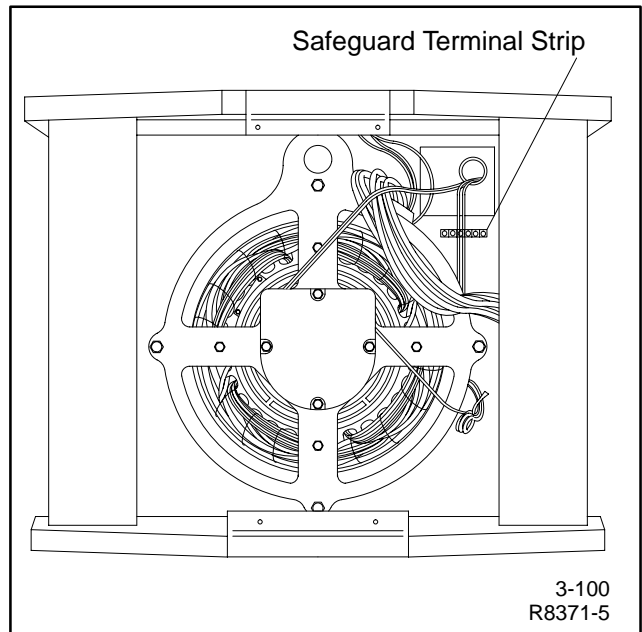
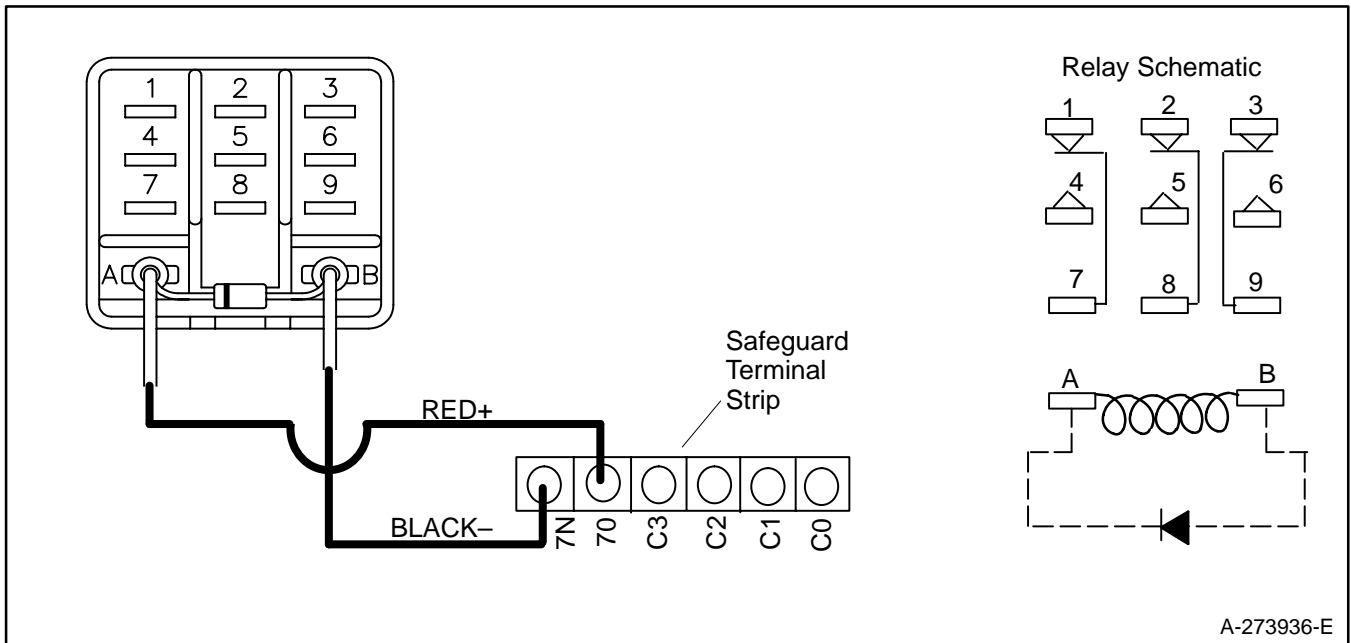

Figure 2. Location of Safeguard Terminal Strip (Typical)
Figure 3. Connections for Run Relay Kit
5. Locate the safeguard terminal strip in junction box. See Figure 2. Connect the red wire of the run relay to terminal 70 (+) and the black lead to terminal 7N (-) of the safeguard terminal strip. Connect the relay kit according to the diagram in Figure 3.